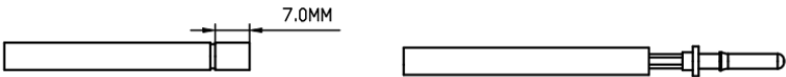

Figure 6-18-3 Stripping and crimping terminals
- 3) The cable stripping length is 7mm. After stripping, refer to Table 1 for crimping height and crimping terminals, as shown in Figure 6-18-3.